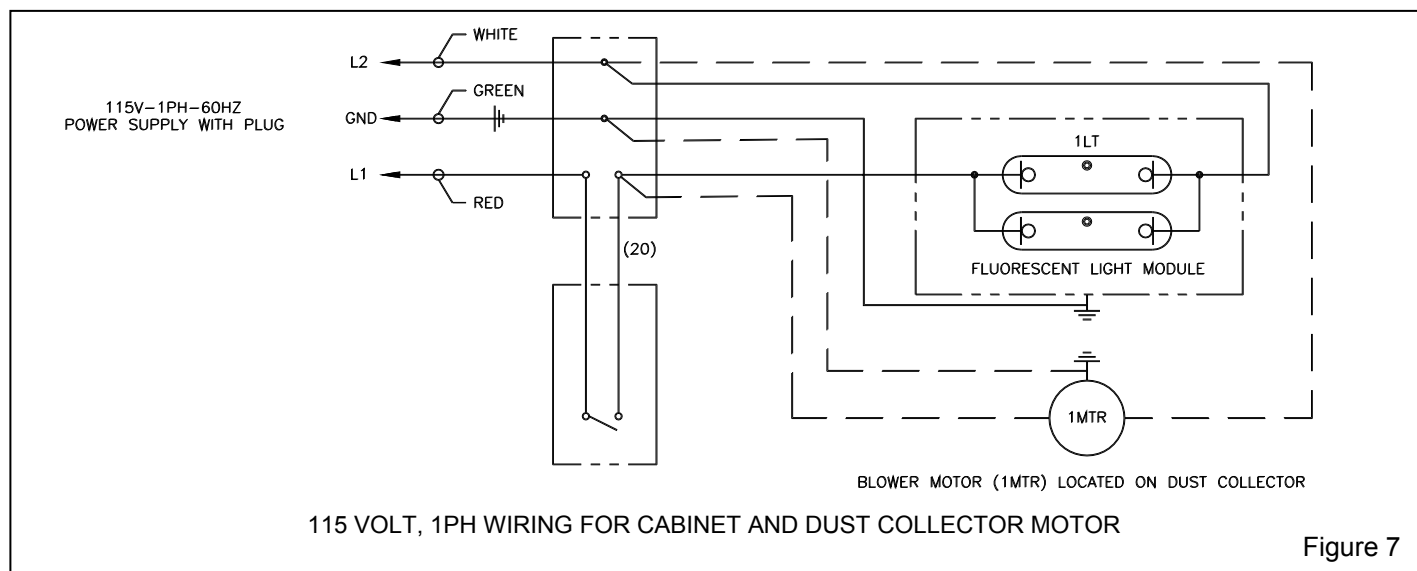

Figure 7
2.11.1.2 Refer to the wiring schematic in Figure 7 and wire the dust collector motor per instruction on the motor data-plate, to the junction box mounted on the cabinet. When wired as noted in Figure 7, the dust collector exhauster motor will start when the cabinet light switch is turned ON, and stop when the switch is turned OFF.